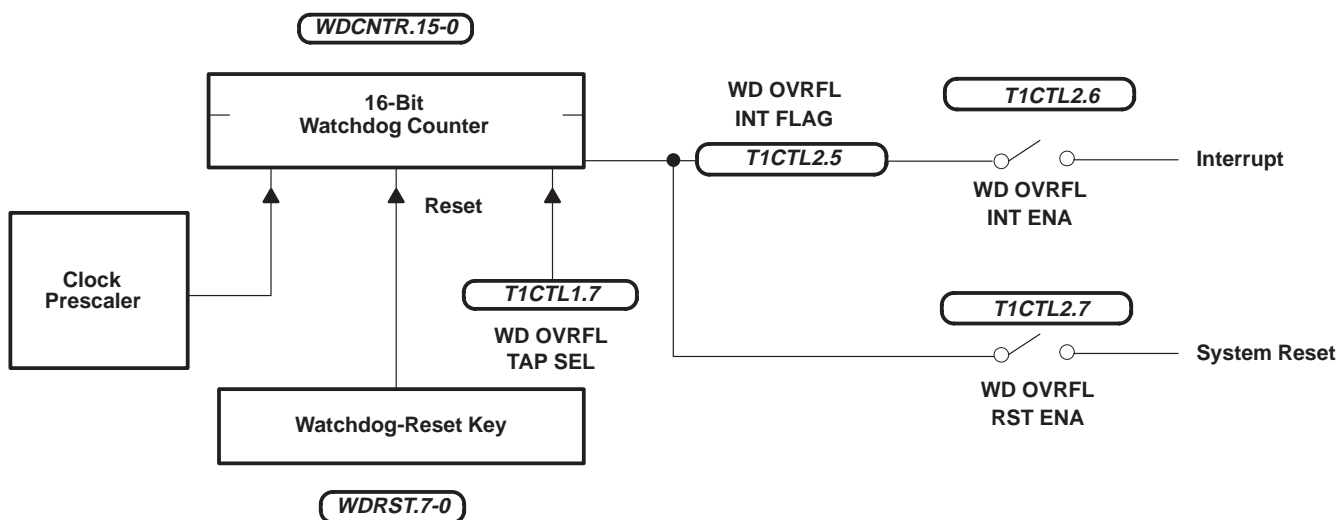

Figure 8. Standard Watchdog
- Standard watchdog configuration (see Figure 8) for EPROM and mask-ROM devices: